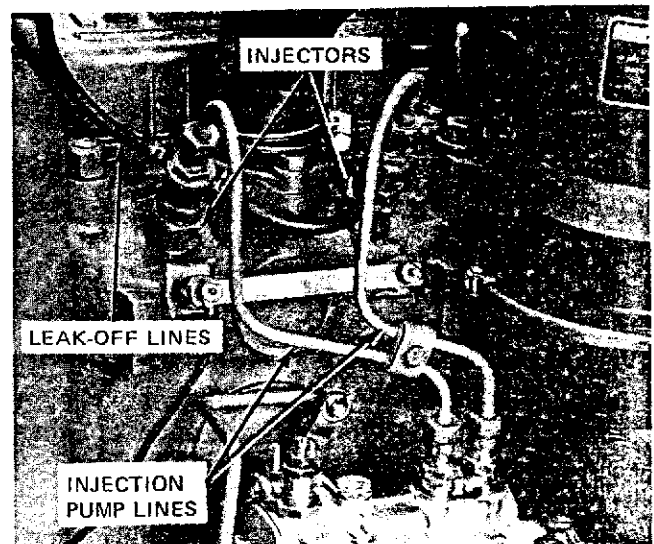

Figure 42 — Fuel Injector Leak-Off Lines
The injectors should be cleaned, tested, and adjusted every 600 hours. Do not disassemble or adjust the injectors yourself. Remove them from the tractor engine and have them serviced by your Ford Tractor-Equipment Dealer. Figure 42.
4. Install the leak-off line, using new copper sealing washers above and below each connection, Figure 42. Tighten the leak-off line bolts to 22-30 lbs. ft. (30-41 N.m).